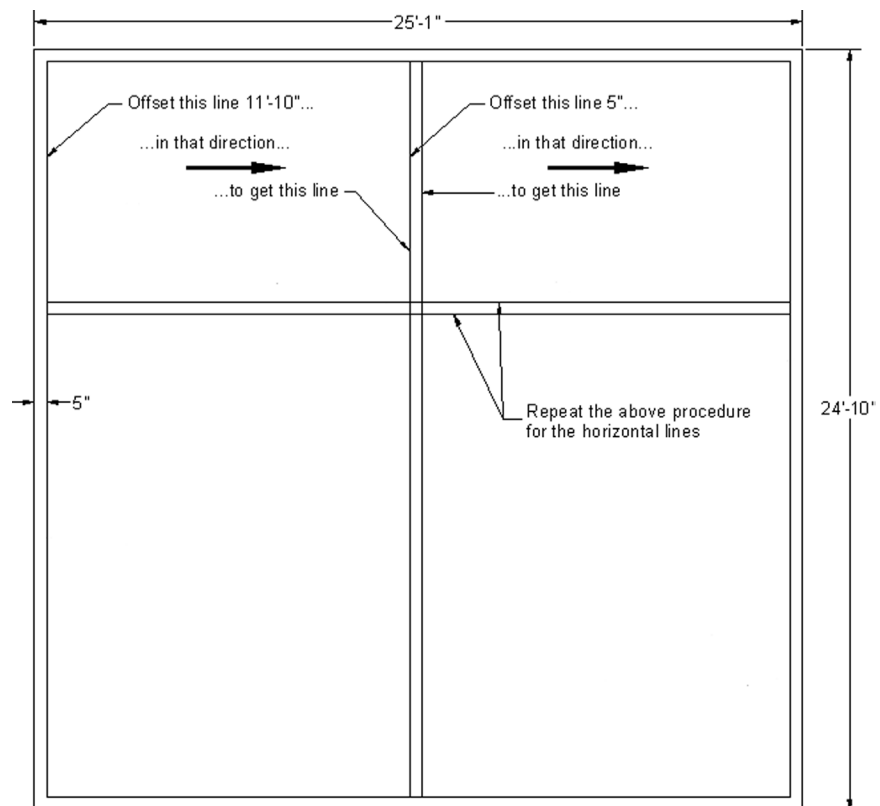

FIGURE 3.15 Floor plan, Step 8.
8. Offset the inner left vertical wall 11'-10" to the right to create part of the kitchen wall. Then, right away, offset 5" for the thickness of the wall. Repeat with the inner top horizontal wall (offset 7'-10") to get the lower part of the kitchen. Offset 5" below that line for thickness. Fig. 3.15 illustrates this. Note that, along the way, you will run into fractional lengths to offset (11'-8½" for example). Do not forget that to enter fractions you just simply type in a decimal equivalent (11'8.5 in this case).